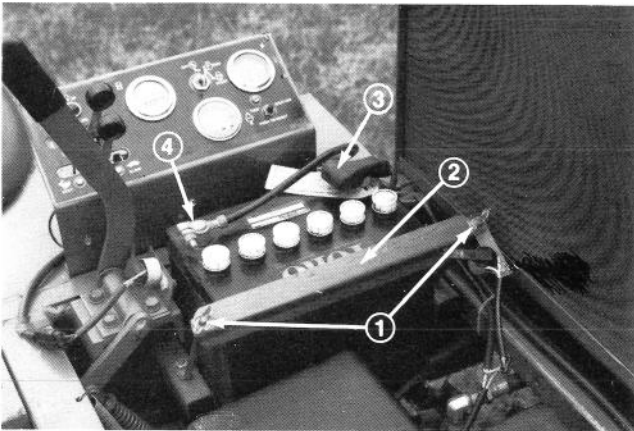

Figure 5
2. Remove two wing nuts and hold down strap that secure battery in place (Fig. 5). Lift battery out of Chassis. Keep wing nuts and hold down strap in a safe place for later use.
1. Install battery and secure with hold down strap and wing nuts (Fig. 5). Remove tape over ends of each cable.
2. Slide the red, positive battery cable (Fig. 5) onto positive battery post and tighten nut securely.
3. Slide the black, negative battery cable (Fig. 5) onto negative battery post and tighten nut securely.
4. Coat both battery connections with either Grafo 112X (skin-over) grease, Toro Part No. 505-47, petroleum jelly or light grease to prevent corrosion and slide rubber boot over positive terminal (Fig. 5).